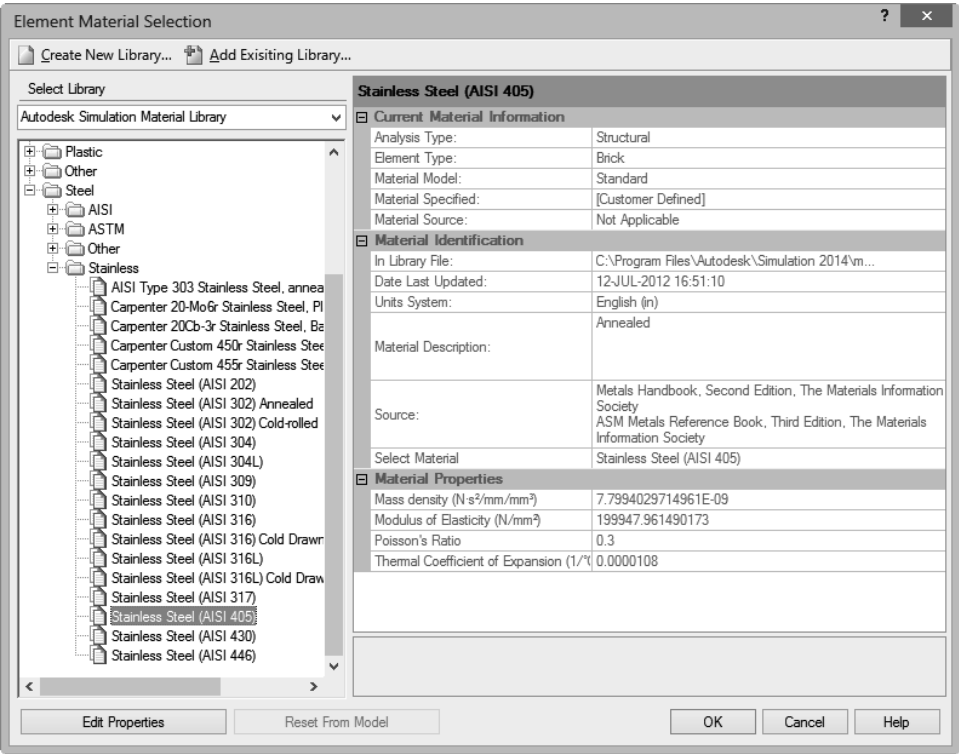

Figure 8-78 The *Element Material Selection* dialog box with the *Stainless Steel (AISI 405)* material selected
- 3. Expand the **Stainless** sub-node from the **Steel** material family and then select the **Stainless Steel (AISI 405)** material; all the default properties of the Stainless Steel (AISI 405) material are displayed on the right in the dialog box, as shown in Figure 8-78.